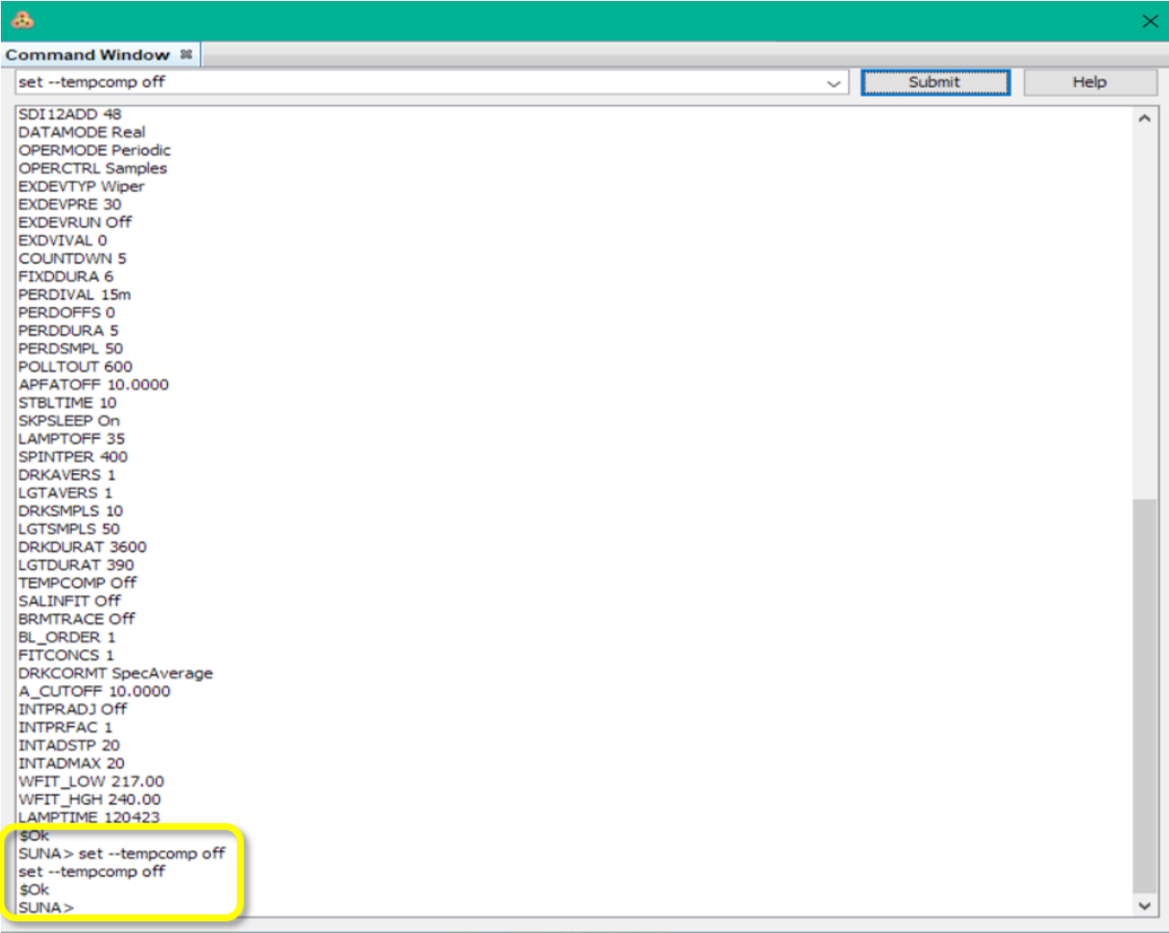

Figure 58. "tempcomp off" Changes Confirmed
13. The changes display at the bottom of the screen as a confirmation (see Figure 58).